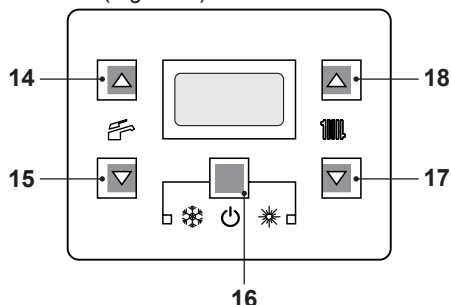

Fig. 8.22
- Enter the "programming mode" by sequentially pressing keys 16 - 17 - 18 (Fig. 8.22) for 10 seconds at the same time until the letters **Pr** that alternate with code **01** are displayed
- Press keys 16 and 18 (Fig. 8.22) at the same time until the value of parameter 10 (30=180 seconds) is displayed on the LCD display (Fig. 8.25).
- By pressing key 16 (Fig. 8.22) confirmation of the inserted value is obtained.
- Press keys 16 and 17 (Fig. 8.22) at the same time to exit without changing the value (return to the parameters list Fig. 8.24).
- Press sequentially keys, 16 - 17 and then 18 (Fig. 8.22) and hold in for 10 seconds to exit the "programming mode".